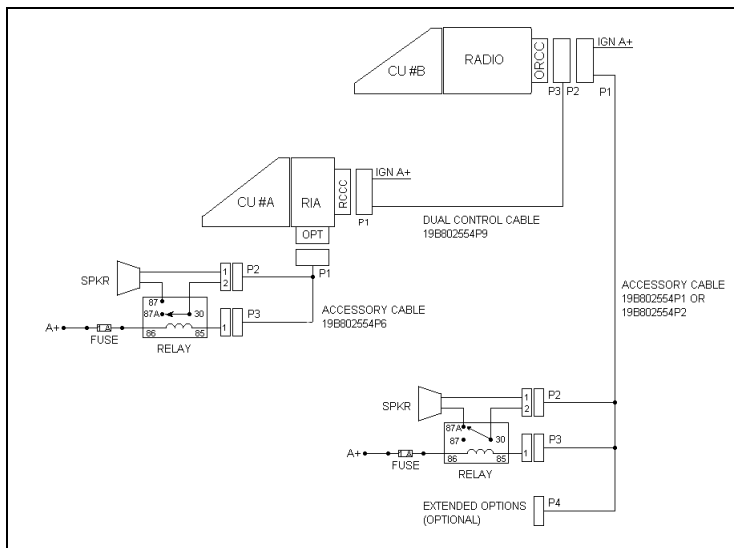
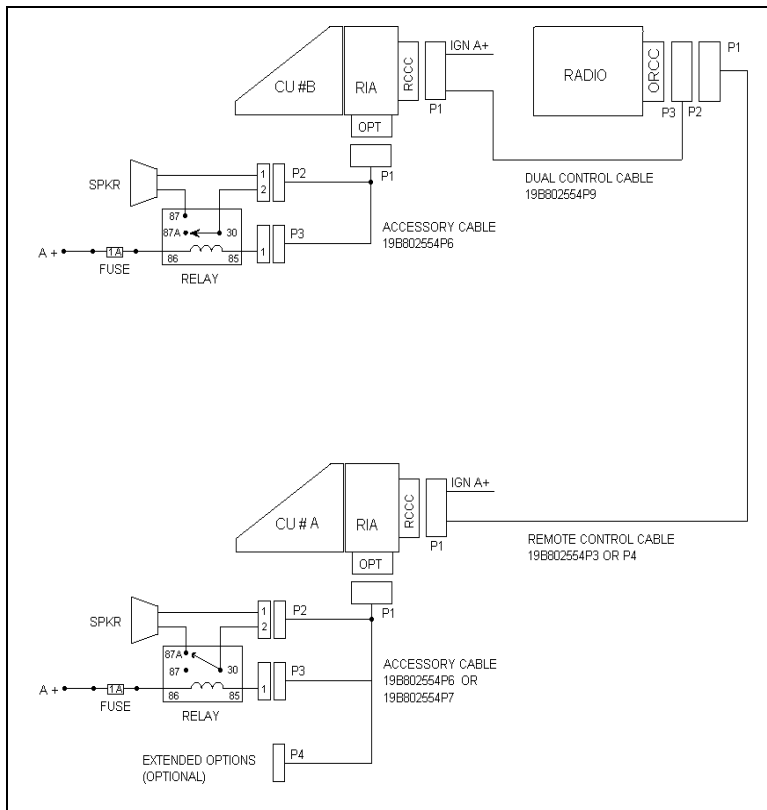

Figure 33 - ORION Dual Control Unit Front Mount/Remote Mount Installation Configuration
Figure 34 - ORION Dual Control Unit Remote Mount/Remote Mount Installation Configuration
The Dual Control feature can be configured for either front mount or for remote mount Radio Units. Each configuration provides for a Main Control Unit and an Auxiliary Control Unit. In the front mount configuration, the Main Control Unit is on the Radio Unit itself (see Figure 33), with the Auxiliary Control Unit located in a convenient location. In remote mount configuration the Main Control Unit is typically located in the vehicle cab, with the Auxiliary Control Unit located in a convenient location (see Figure 34).
1. Referring to Figure 33, run the Dual Control Cable (19B802554P9) between locations for the Radio Unit and Auxiliary Control Unit. Be sure to locate the P2/P3 connector assembly at the Radio Unit.
9. Radio Unit Speaker: Connect the lead nearest the speaker to Pin 87A of the relay. Connect the lead nearest the connector to Pin 30 of the relay. Connect the connector to the Accessory Cable P2 (Refer to Figure 33).
10. Auxiliary Control Unit Speaker: Connect the lead nearest the speaker to Pin 87 of the relay. Connect the lead nearest the connector to Pin 30 of the relay. Connect the connector to the Accessory Cable P2 (Refer to Figure 33).
11. For each relay: Connect a #18 AWG black wire between the relay, Pin 85 and Accessory Cable P3-1 (labeled “**OUT2**” on the schematic diagrams in the service manual). Use a 1/4” tab receptacle on the relay side and mating Molex connector and pins on the accessory cable side. Connect the mating Molex connector to the Accessory Cable P3 when finished (Refer to Figure 33).
12. For each relay: Connect a #18 AWG red wire to the relay, Pin 86. Cut to length, and connect to the 1 amp fuse holder supplied. Use crimp on connectors supplied. Connect the other side of the 1 amp fuse holder to A+ battery source or vehicle A+ fuse block. Use #18 AWG red wire and ring lug supplied., if needed (See Figure 33).
1. Referring to Figure 34, run the Remote Control Cable (19B802554P3 or P4) between locations for the Radio Unit and Main Control Unit.
11. Main Control Unit Speaker: Connect the lead nearest the speaker to Pin 87 of the relay. Connect the lead nearest the connector to Pin 30 of the relay. Connect connector to the accessory cable P2 (Refer to Figure 34).
12. Auxiliary Control Unit Speaker: Connect the lead nearest the speaker to Pin 87A of the relay. Connect the lead nearest the connector to Pin 30 of the relay. Connect the connector to accessory cable P2 (Refer to Figure 34).
13. For Each Relay: Connect a #18 AWG black wire between the relay, Pin 85 and accessory cable P3-1 (labeled **“OUT2”** on schematic diagrams in the service manual). Use a 1/4” tab receptacle on the relay side and a mating Molex connector and pins on the accessory cable side. Connect the mating Molex connector to the accessory cable P3 when finished (Refer to Figure 34).
14. For Each Relay: Connect one end of a #18 AWG red wire to the relay, Pin 86. Cut the lead to length, and connect the other end to the 1 amp fuse holder supplied. Use crimp on connectors supplied. Connect the other side of the 1 amp fuse holder to the A+ battery source or a vehicle A+ fuse block. Use a #18 AWG red wire and a ring lug supplied, if needed (Refer to Figure 34).